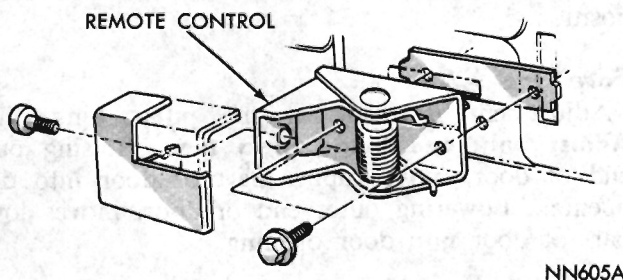

Fig. 13 - Remote Control Handle
The remote control handle (Fig. 13) is attached to the control unit with a screw at the rear inner end.
- (1) Raise door glass.
- (2) Remove screws attaching remote control base to door panel (Figs. 13 and 14).
- (3) Remove link from remote control lever.
- (4) Remove control through large opening in door.